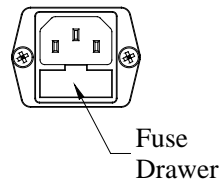

Figure 9.
- Pull back on the fuse drawer (see Figure 9).